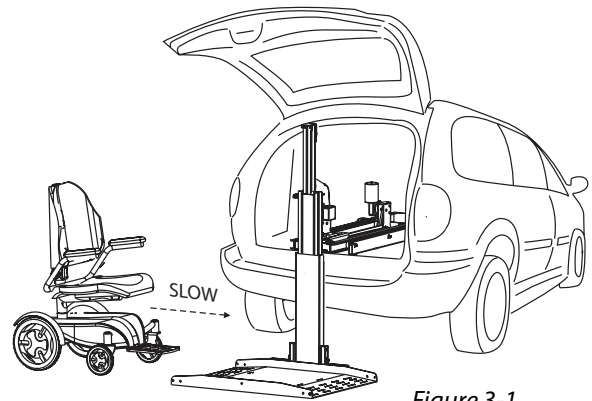

Figure 3-1
1. Drive Chair/Scooter onto Platform. Determine heaviest portion of the power chair or scooter. This is usually under the drive wheels, motor(s), and batteries. Always drive onto platform with the heaviest portion closest to the lifting tower. If loading a scooter and the platform has the AL617 Extension Plate, drive onto the platform so that the scooter's front wheels are resting on the extension plate, and rear wheels are on the main platform. This allows the heaviest portion of the scooter to be closest to the lifting tower. Set your chair or scooter's speed control to slow speed to maneuver easily onto the platform. *[Figure 3-1]* You can drive onto the platform from either side.